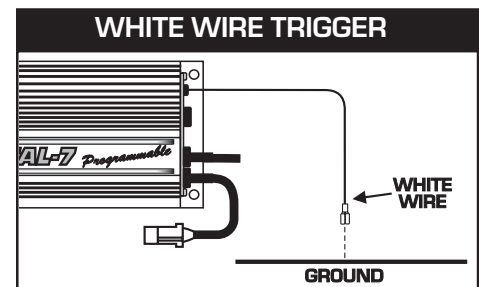

Figure 6 Checking for Spark with the White Wire.
5. Tap the White wire to ground quickly several times (Figure 6). Each time you pull the wire from ground, a spark should jump from the coil wire to ground. If spark is present, the ignition is working properly. If there is no spark skip to step 6 on page 14: